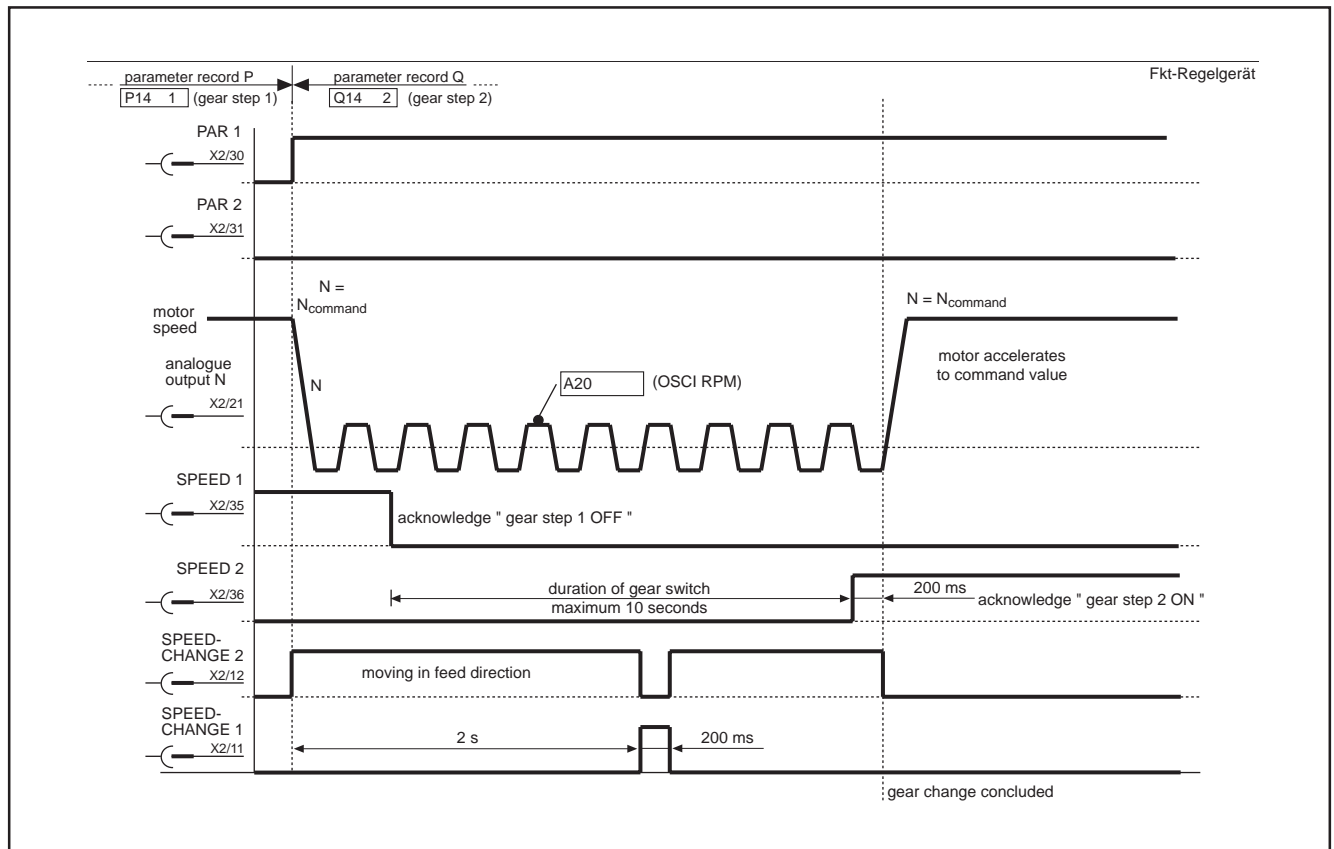

Figure 75: Sequence of operations - gear change via the controller
- two auxiliary d.c. contactors (see Figure 75)